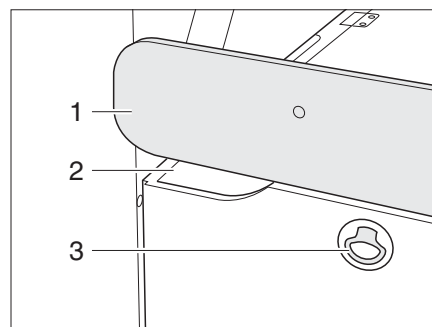

Fig. 35 Bench seat
▷ Do not pull at the cover (Fig. 35,1).
- Pull out the extension at the handle (Fig. 35,2) under the cover.
- Open the storage space lid by pulling the latch (Fig. 35,3).